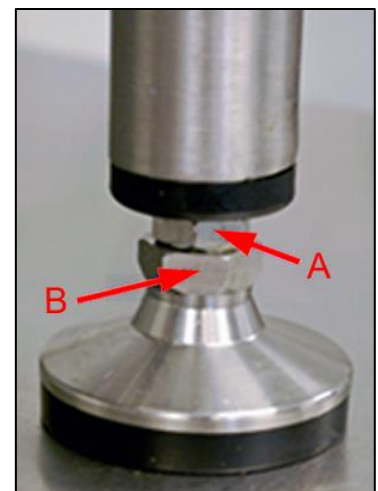

Figure 2
3. To adjust the height of an individual leg, Fig. 2:
- a. Using an open-end wrench, loosen the locknut (A).
- c. Insert an open-end wrench onto the wrench flats (B) of the leg. Turn the wrench to increase or decrease the height of the individual leg while observing the level.
- e. Using an open-end wrench, tighten the locknut (A).